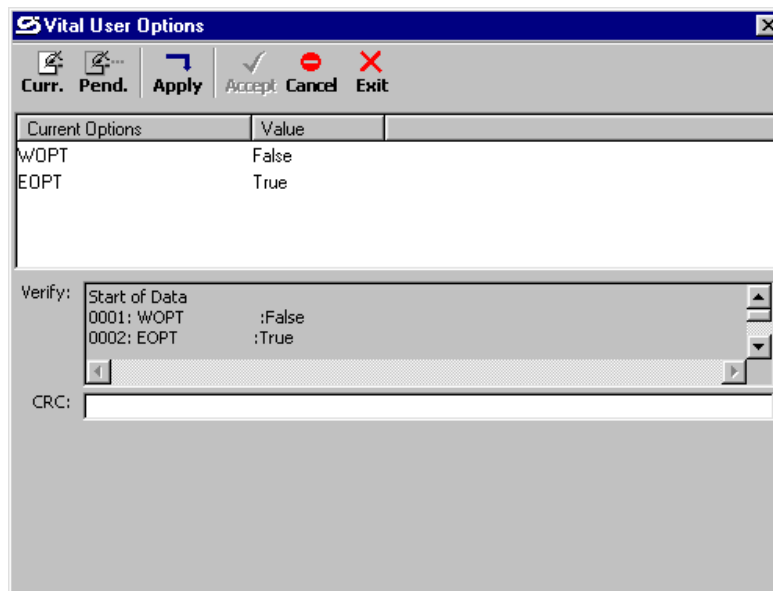

Figure 3-41
1. Bring up the **Vital User Options** screen (Configure menu/Vital User Options). The display will be similar to the one shown in figure 3-41.